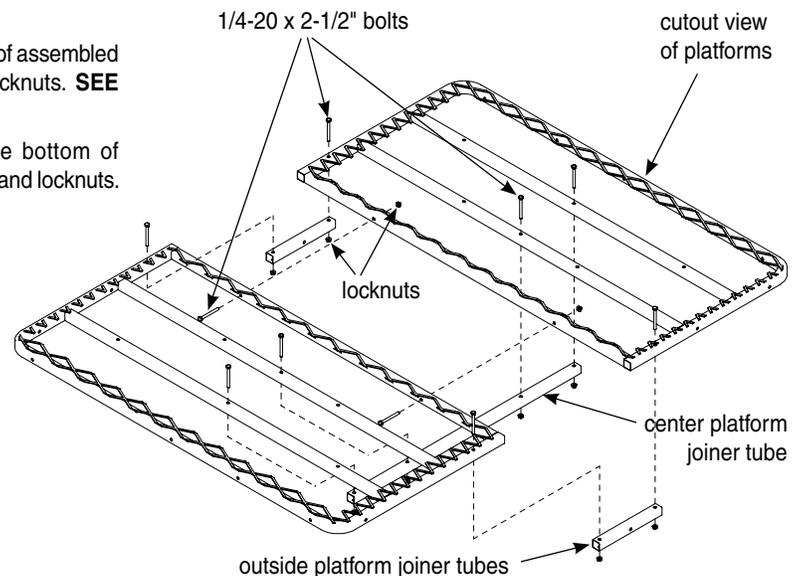

FIGURE 1
1. Attach the (2) platforms (TWR15) together using (2) provided 1/4-20 x 2-1/2" bolts and locknuts. **SEE FIGURE 1. DO NOT tighten all nut & bolt assemblies completely!**
2. Attach the center platform joiner tube (TWR32) to the bottom of assembled platforms using (4) provided 1/4-20 x 2-1/2" bolts and locknuts. **SEE FIGURE 1.**
3. Attach (2) outside platform joiner tubes (TWR31) to the bottom of assembled platforms using (4) provided 1/4-20 x 2-1/2" bolts and locknuts. **SEE FIGURE 1.**